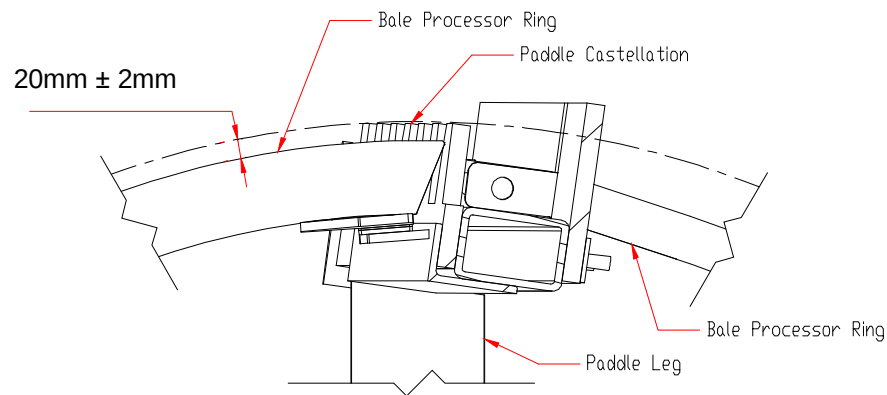

Figure 14: Series 2 Bale Processor ring to paddle tip setting
- 2:** The rubber buffer should also be checked for wear or signs of damage which may affect its shock absorption. Optimum tine to top knife gap is **235mm ± 10mm**, but may vary depending on application and the design of tine fitted. Please consult your local Service Centre for settings. The optimum distance from the ring to the top of the castellation is **20mm ± 2mm** on the rear of the ring (see figure 14).